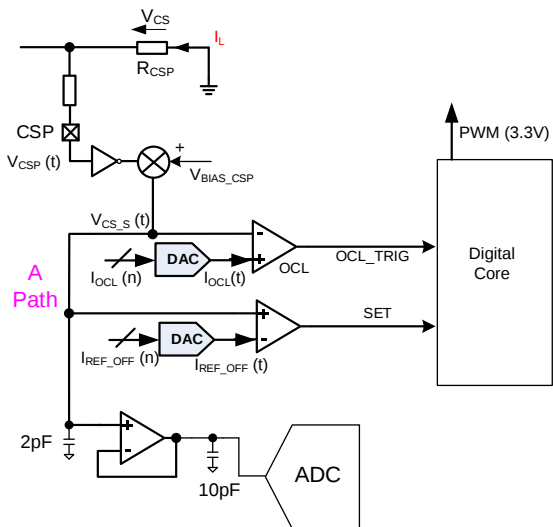
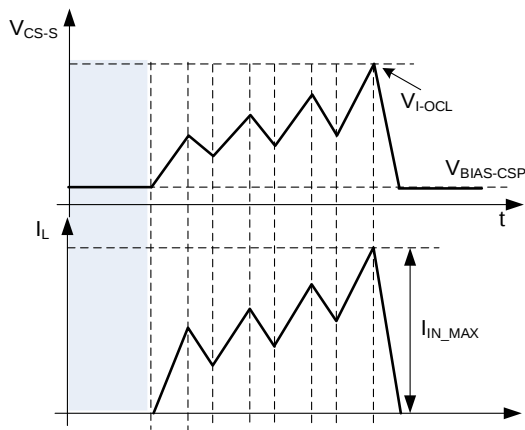

Figure 15: CSP Pin Current-Sense Circuit
Figure 16: V_{CS} s Voltage Waveforms
The PFC inductor current is sensed by the CSP resistor (R_{CSP}), and produces a negative voltage (V_{CSP}). This value is internally converted into a positive voltage with a bias (V_{CS_S}) (see Figure 15 and Figure 16 on page 23). The ADC samples V_{CS_S} when the PFC gate turns off. V_{CS_S} can be calculated with Equation (2):
Figure 15 shows the current-sense circuit on the CSP pin.
Figure 16 shows the V_{CS} waveforms.